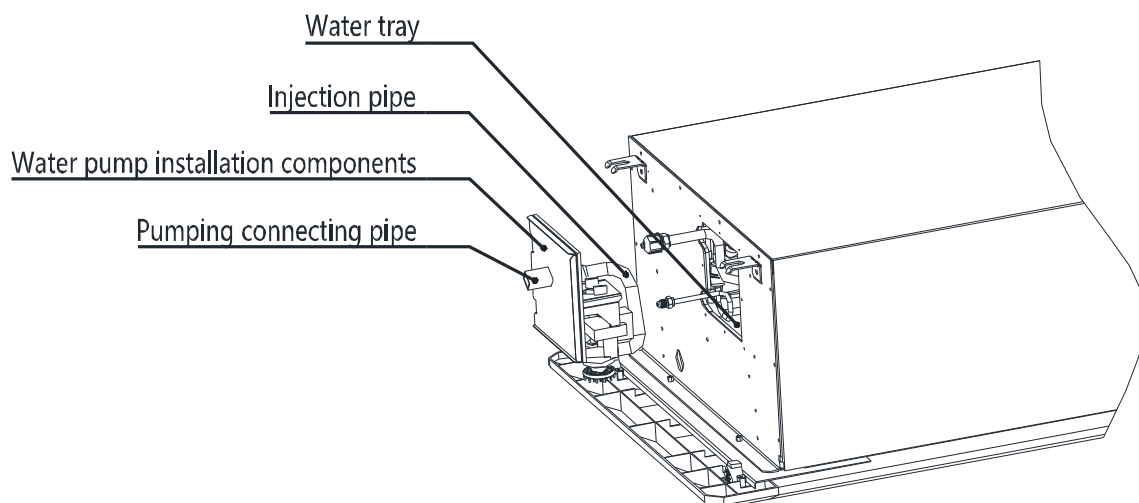

Figure 4.4
1) Remove water pump installation components, through water trying mouth; inject about 2000 mL of water into water tray through injection pipe. (See Figure 4.4)